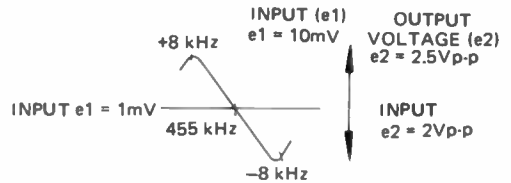

FIGURE 4. IF DISCRIMINATOR CURVE
Step 3: Adjust T1 of RF Section and T1 and T2 of IF amplifier so that the 455 kHz marker is in the center of the discriminator curve, and for best linearity. Refer to Figure 4.